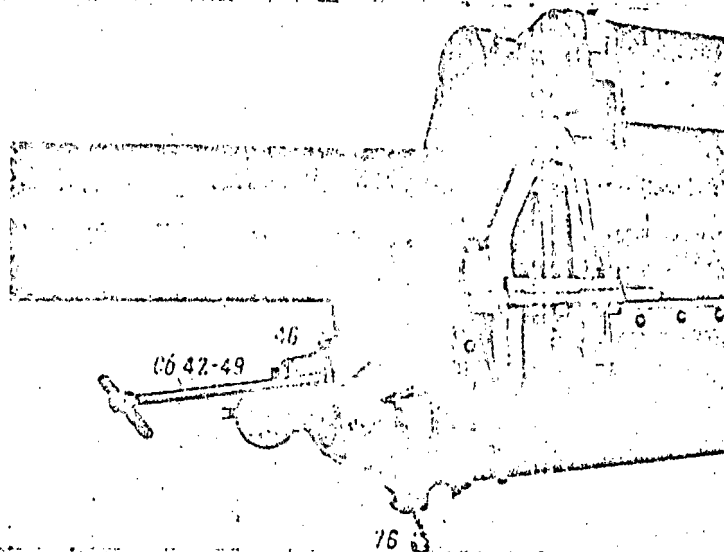

Fig 136. Checking Fluid in Recoil Brake
2. With wrench A52830-5, screw instrument Sb-42-25 with pressure gage (Fig. 134) for filling the recoil brake with fluid (air) onto the receptacle used in testing the recuperator. Screw plug 42-74 (Fig. 136) onto the instrument in place of cap 42-83 (Fig. 36); give the barrel a maximum angle of depression, and check the pressure in the recuperator with the pressure gage. If necessary, regulate the pressure as indicated below.
1. Unscrew plug 76 (Fig 136) with wrench A52830-2, open the lid on the forward cover of the carriage, and give the barrel an angle of elevation of 6° (100 thousandths on the sight).